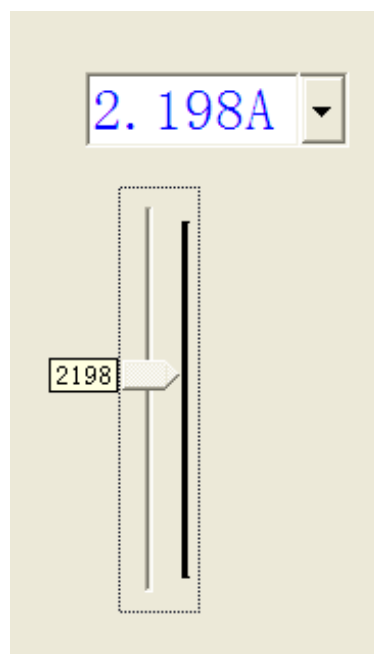

Figure 32
- C. Set Current slider input: Hold the sliding handle the position of need data, as figure 32